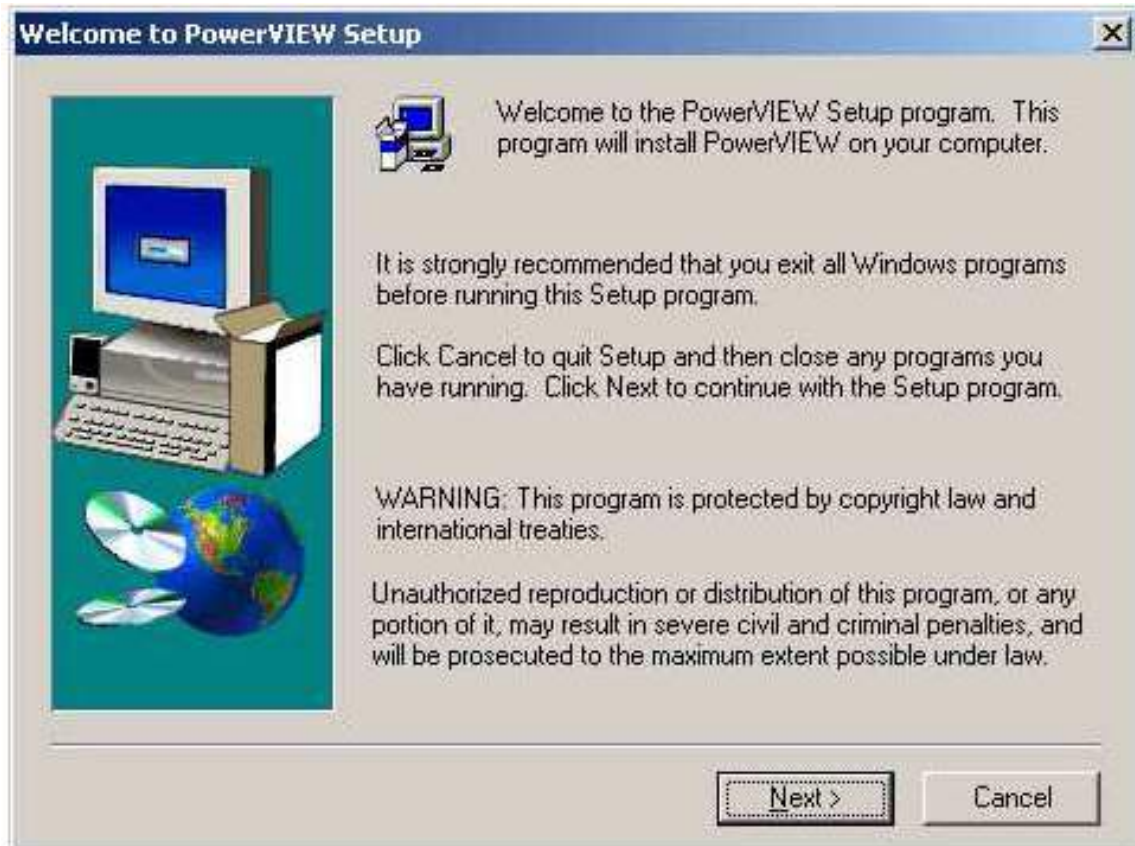

Figure 1-1. Starting the Installation Program
2. Follow the on-screen instructions, (shown in Figure 1-1).